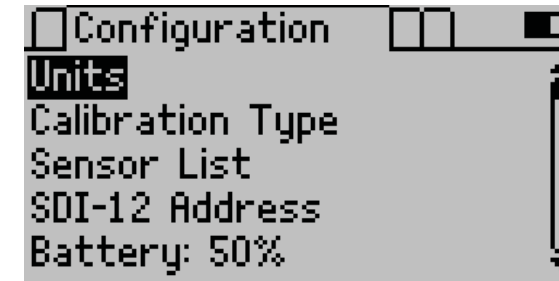

Figure 7 Configuration tab
2. Navigate to the Configuration tab (Figure 7).